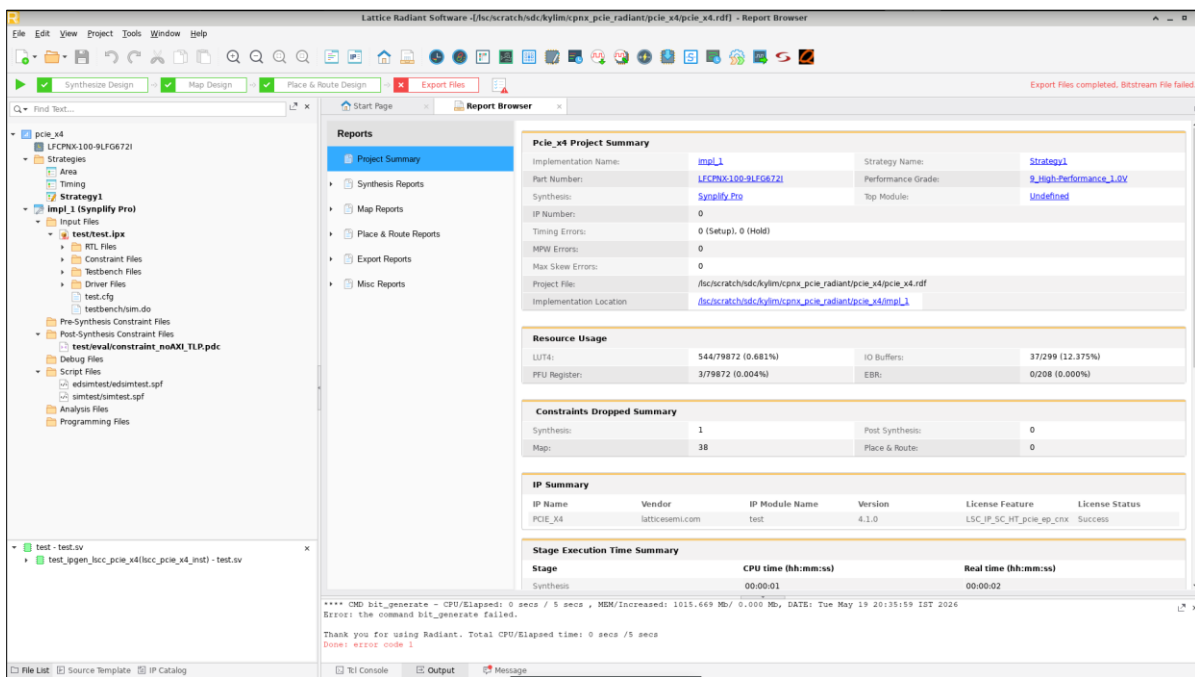

Figure 7.4. Project Compile Done
- Click **Run All** to compile the IP. Successful compilation is shown in Figure 7.4. As the IP level compile involves virtual I/O, the bitstream cannot be generated. For bitstream generation, refer to the Example Design section.